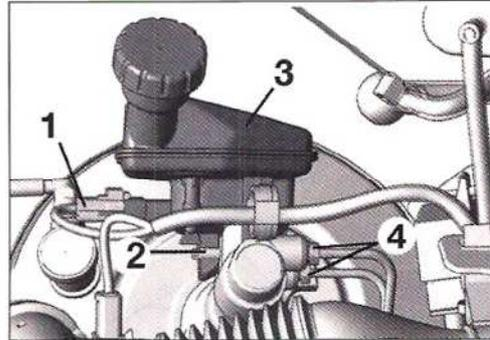

FIG.11
- Desconectar el conector (1) (Fig.11).